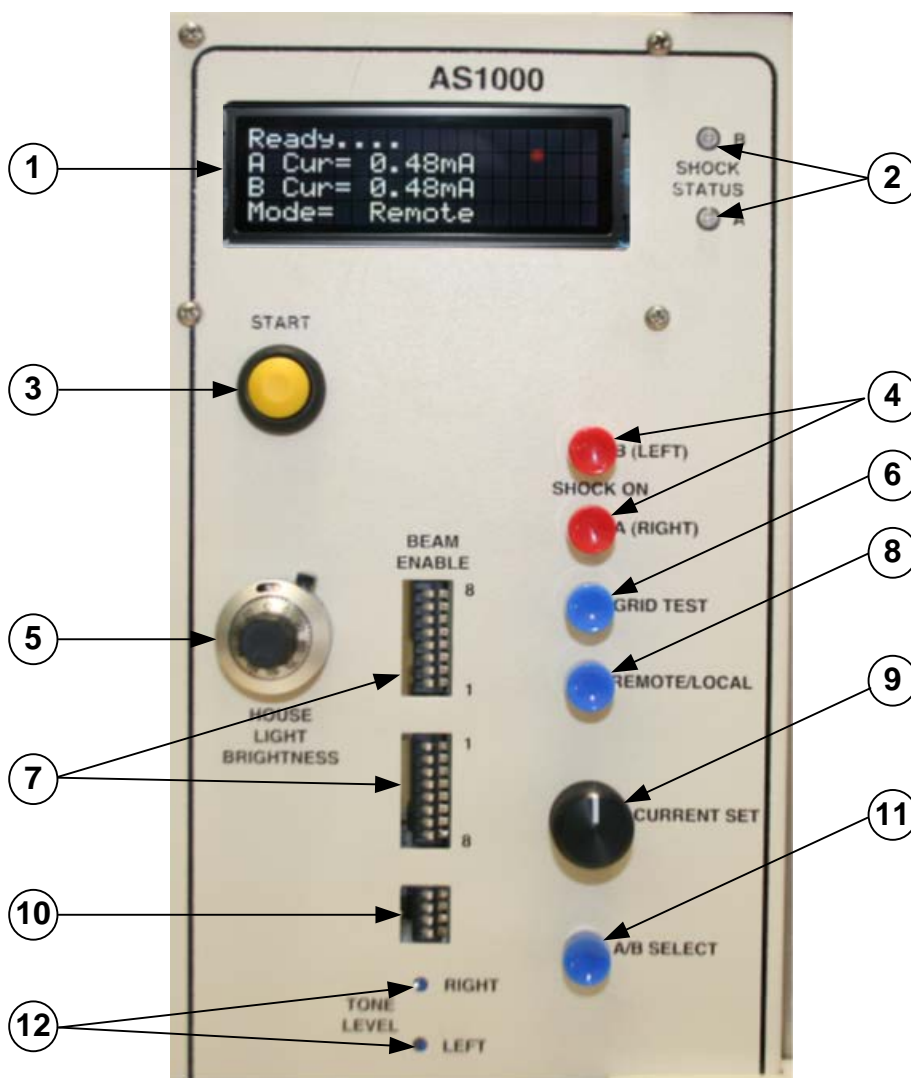

Figure 1-5. AS1000 Front-Panel Controls and Indicators
1.8.2.1 AS1000 Front-Panel Controls and Indicators The AS1000 Front Panel contains the controls and most of the electronics for the *AvoidanceMonitor* System. Figure 1-5 and Table 1-2 describes the front-panel controls and indicators.